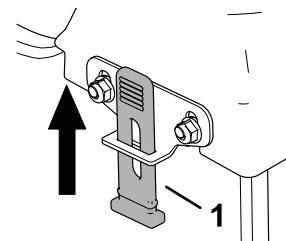

Figure 8
2. Install a rubber latch to each plate (Figure 8).